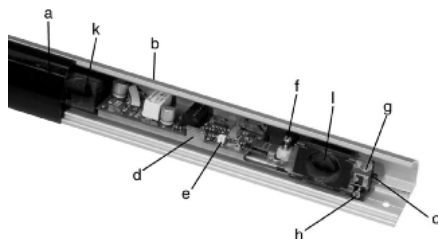

Figure 1.1 Internal design of the device
6. Place the modules between the module holders (c). Then use the headless screw (h) to screw the modules down to the module holder (see Figure 1.1).